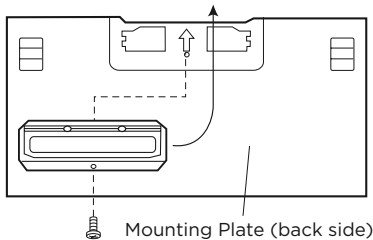

Figure 11
1. The Exhaust Damper Assembly (Figure 11) is not required for recirculating operation.
- Attach the Exhaust Damper Assembly to the back of the mounting plate by sliding it into the slits in the same direction as the arrow. See Figure 11. Using tapping screw 4 x 12 mm from the INSTALLATION HARDWARE, tighten into place.